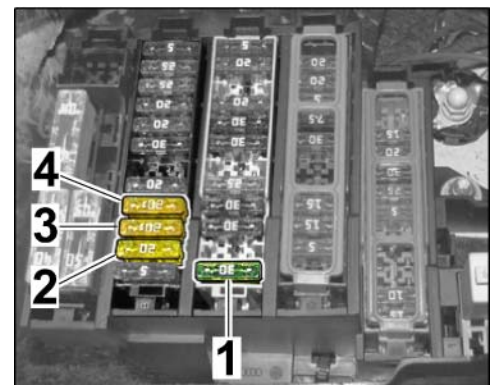

Figure 13
2.7 Insert fuses for trailer hitch into fuse strips as follows (⇒ *Figure 13*):